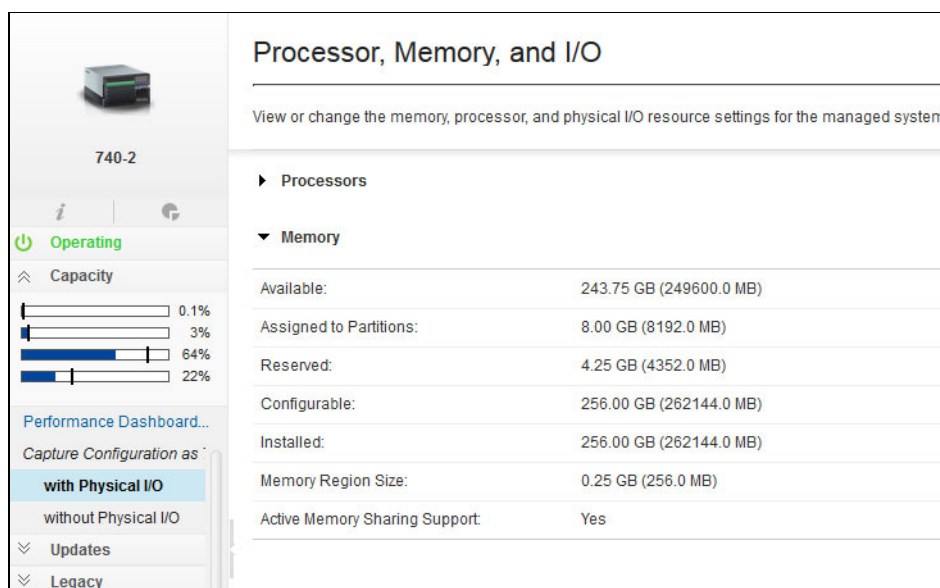

Figure 5-82 Memory tab
- The Memory area (Figure 5-82) displays information about the managed system's memory including installed memory, deconfigured memory, available memory, configurable memory, memory region size, current memory available for partition usage, system firmware current memory, and maximum number of memory pools.